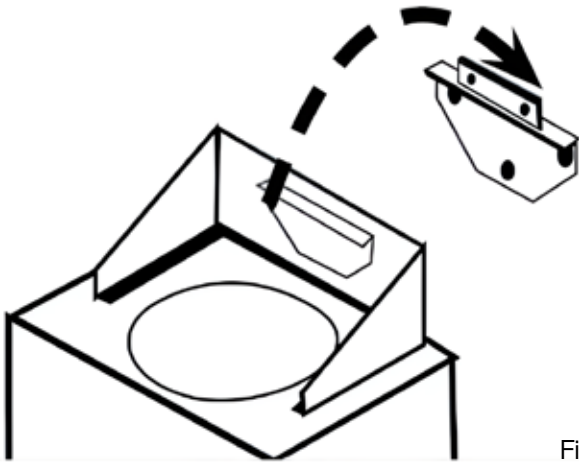

Fig.4
- Once the bracket is secure, using two people, lift the hood and drop the horizontal support bar onto the fixed bracket (Fig. 4).